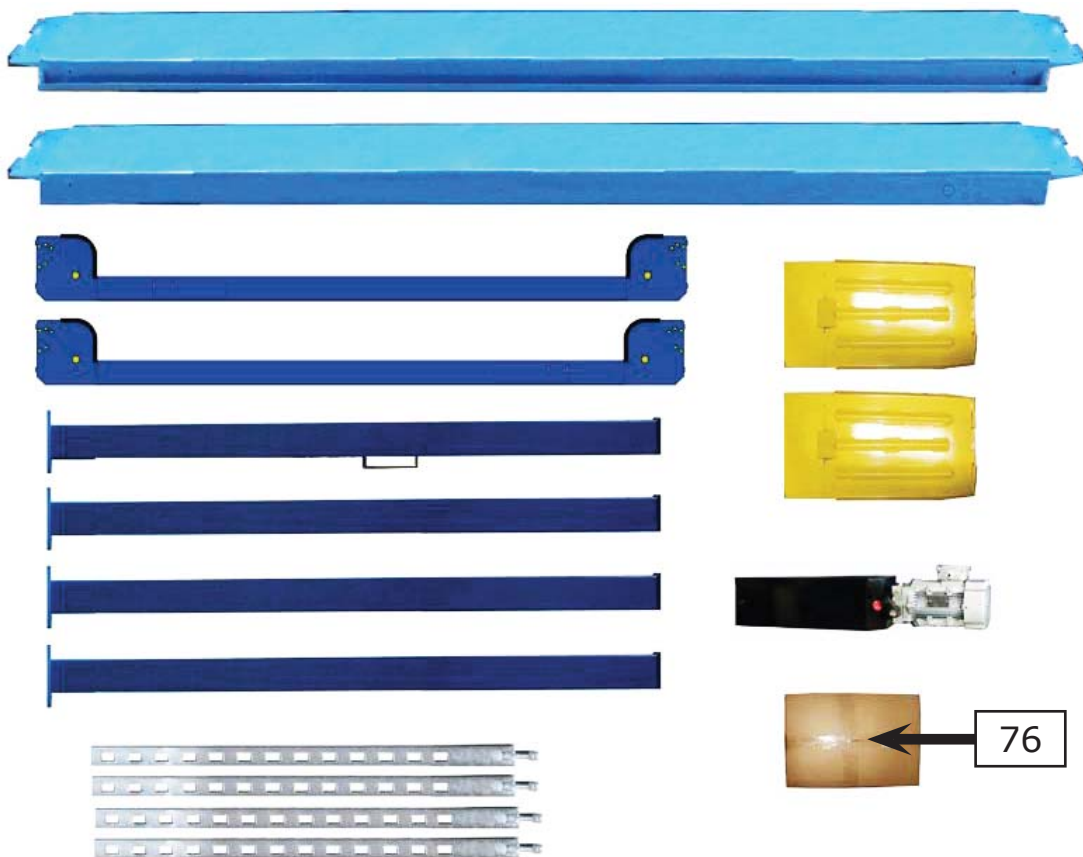

Fig. 7
5. Move aside the parts and check the parts according to the shipment parts list. (See Fig. 7).